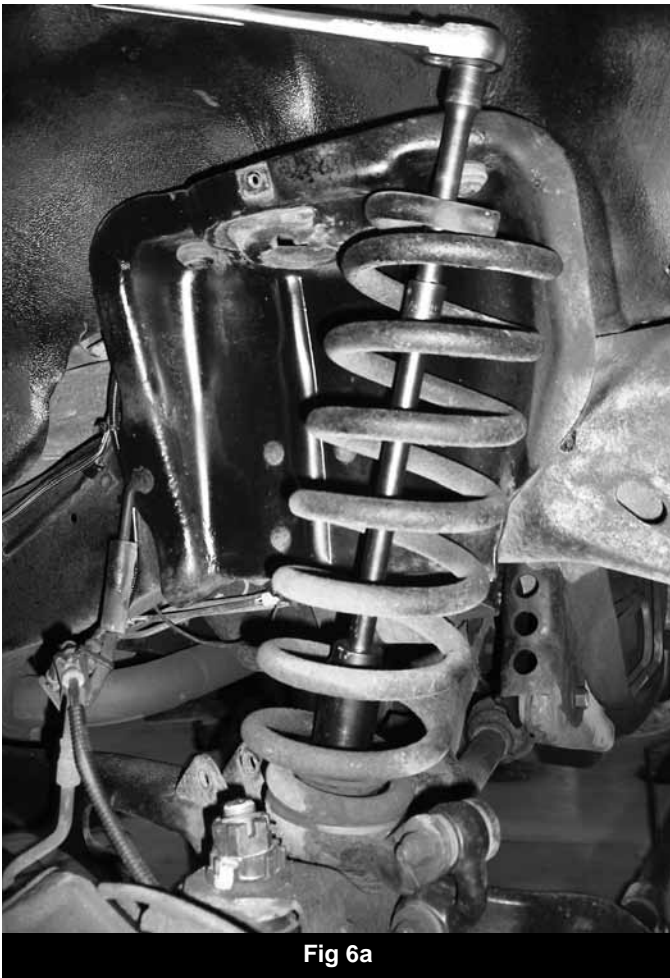

Fig 6a
12. Remove the nut and captive washer retaining the coil to axle, retain hardware. Remove the coil from vehicle. (Fig 6a/6b)